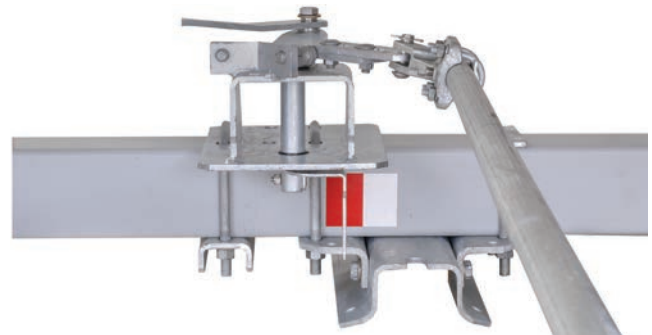

Figure 6. Reciprocating and hookstick mechanism overtoggle indicator.
**Overtoggle mechanism and visual overtoggle indicator** on upright, triangular, and inverted mounting configurations provide mechanical and visual assurance the switch blades are fully closed and will stay fully closed, eliminating contact creep and overheating even if the utility pole warps over time. See Figures 6 and 7.